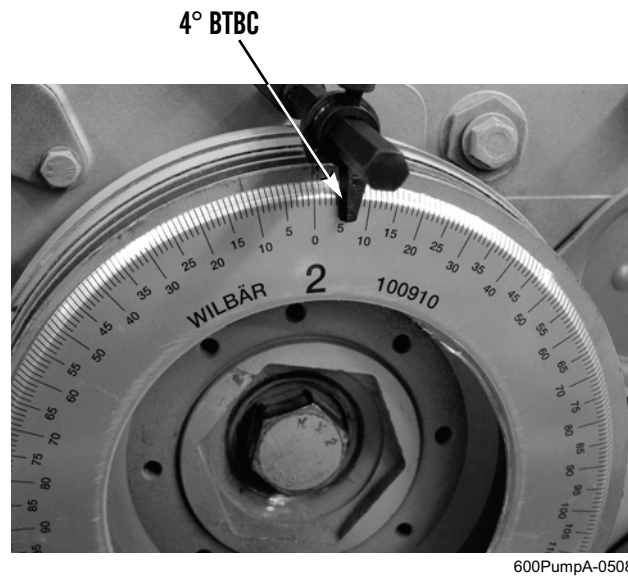

Figure 2. Setting Timing Specification.
5. Refer to IMPORTANT ENGINE INFORMATION data plate (WP 0008), located on oil cooler access plate, for injection timing specification. Note injection timing specification: °BTDC 4.0 (Figure 2).